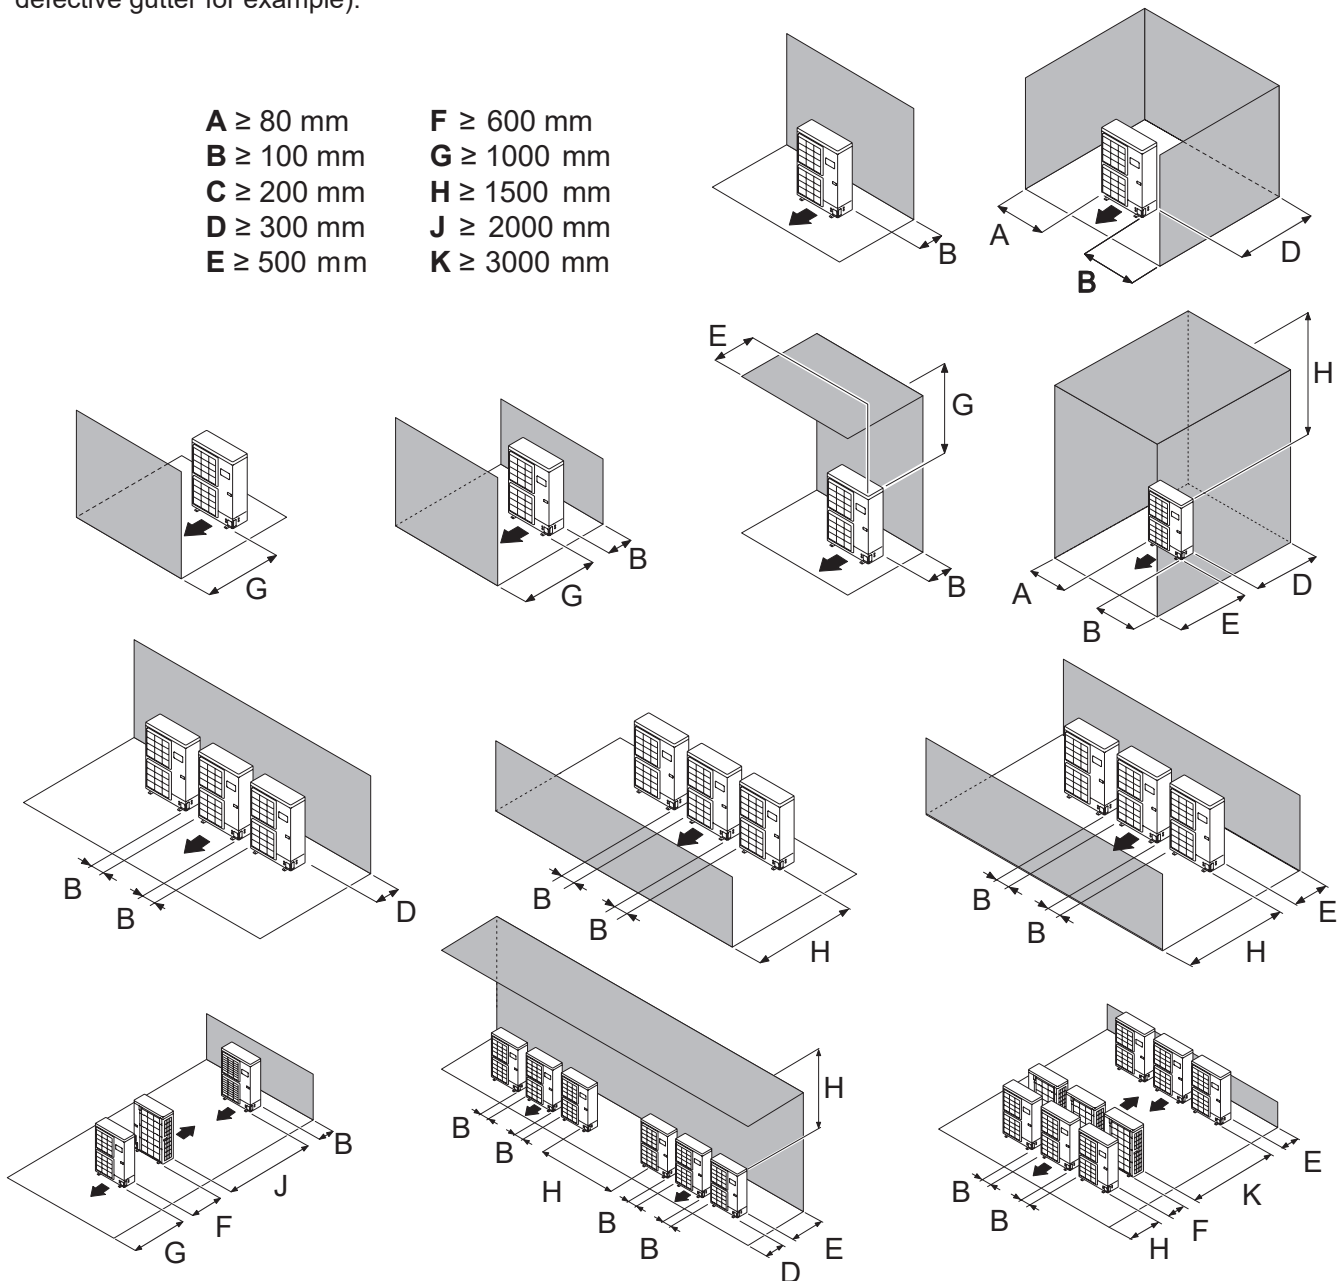

fig. 13 - Minimum installation clearances around the outdoor unit (all models)
- Nothing should obstruct the air circulation through the evaporator and out from the fan (fig. 13).